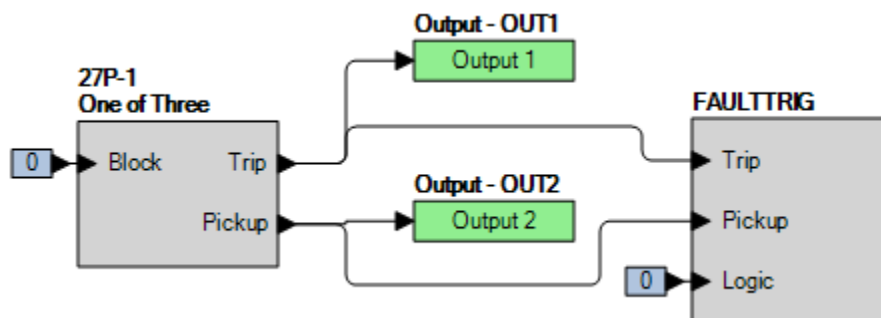

Figure 57-1. BESTlogic_{Plus} Settings
Step 2: Use BESTCOMSP_{Plus} to configure the BESTlogic_{Plus} programmable logic shown in Figure 57-1.
Step 4: Prepare to monitor the 27P-1 function operation. Operation can be verified by monitoring OUT2 (see Figure 57-1).